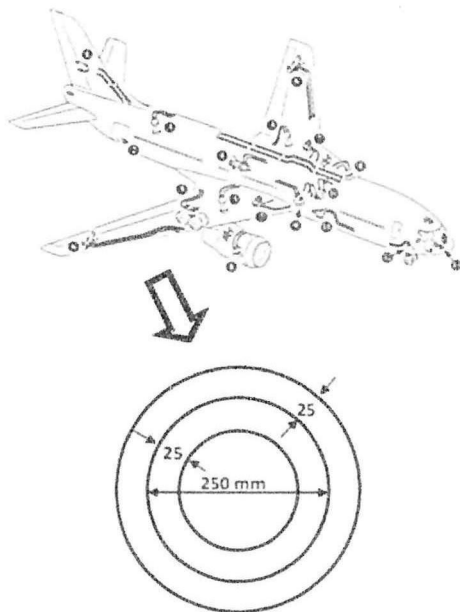

Figure Q5(b)
- (b) A compound tube used in Boeing 777 flap/slat actuator system is formed by shrinking a tube of 250 mm internal diameter and 25 mm wall thickness onto another tube of 250 mm external diameter and 25 mm wall thickness. The cross section of the tube is shown in **Figure Q5(b)**. Both tubes are made of the same material. The stress set up at the junction owing to shrinkage is 10 MPa. The compound tube is then subjected to an internal pressure of 80 MPa. Determine the final stress setup across the section. (14 marks)